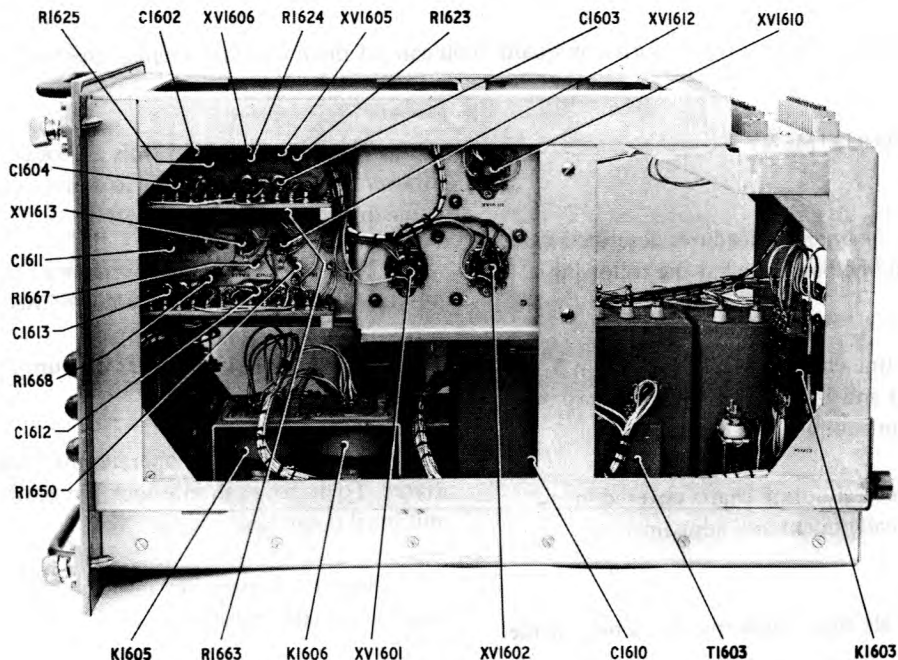

Figure 6-1. Low Voltage Power Supply PP-1766/URN, Right Side View
Step 2. If reading is not correct, adjust potentiometer R1623 (figure 6-1) to obtain a reading of exactly +250 volts dc.
Step 4. If reading is not correct, adjust potentiometer R1663 (figure 6-1) to obtain a reading of -375 volts dc.
(2) MEDIUM VOLTAGE POWER SUPPLY